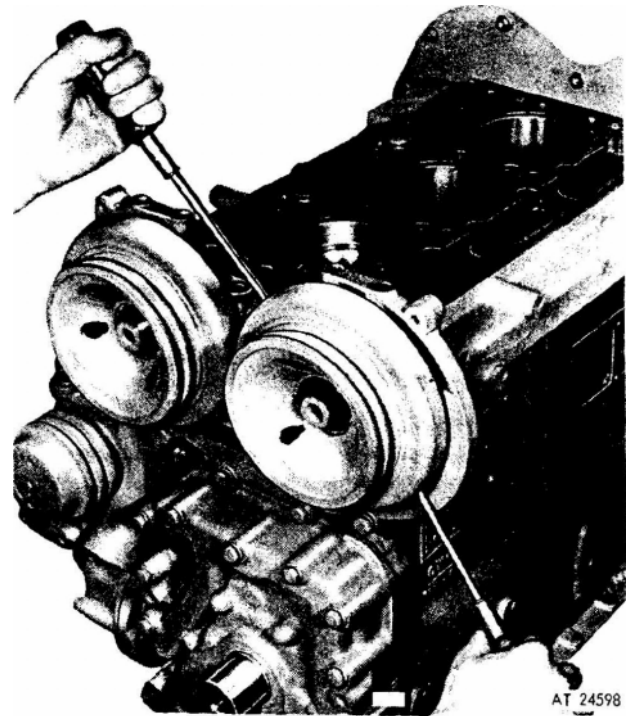

Figure 1. Removing front balance weight (pulley type).
2. Force the balance weight off the end of each shaft, using two screw drivers or pry bars between the balance weight and the upper front cover, as shown in figure 1.